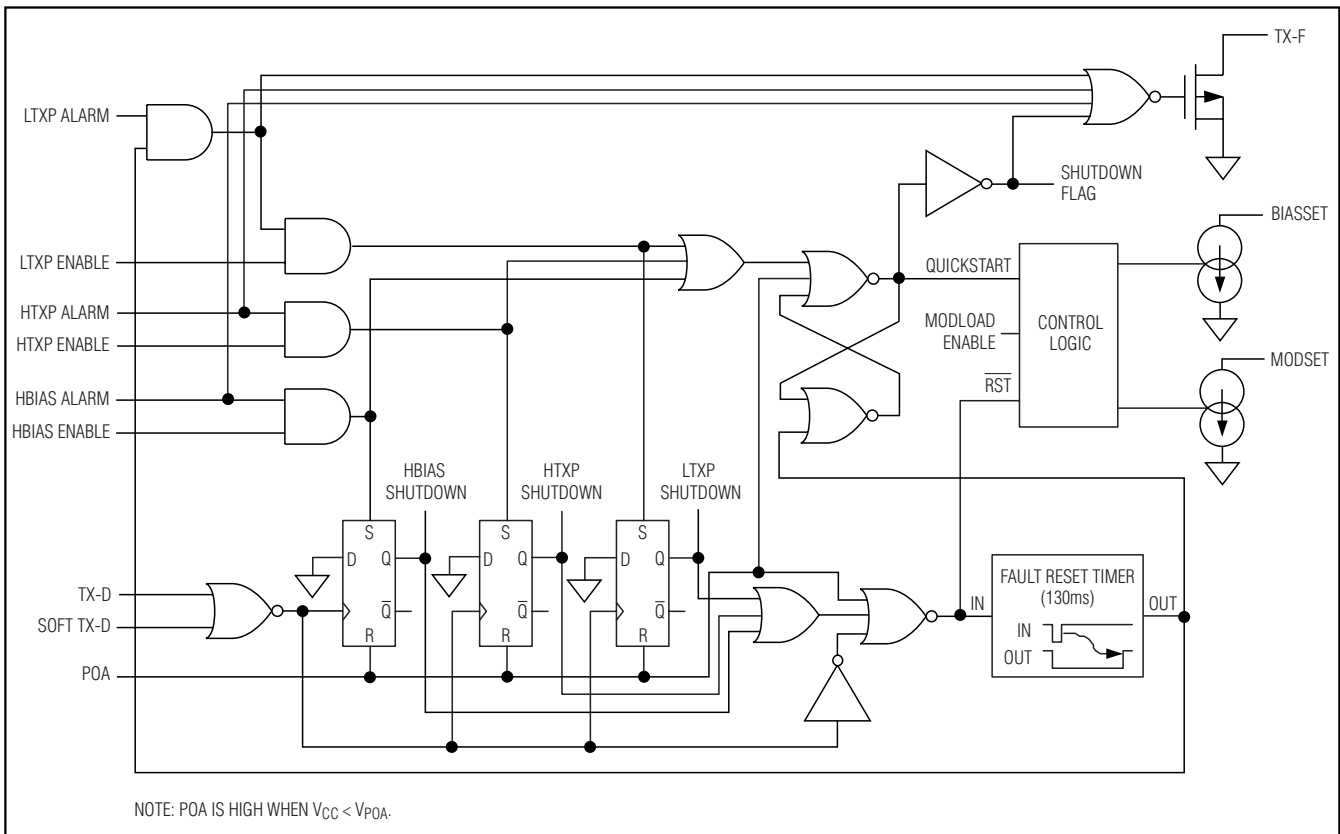

Figure 13. Quick Trip Logic Diagram
The DS1861 has a VCC monitor plus three programmable quick-trip (QT) fault monitors (Figure 13) that can trigger the TX-F output. The QTs monitor for high transmit power (HTXP), low transmit power (LTXP), and for high bias current (HBIAS). All the QTs feature programmable trip levels, an alarm disable, and a shutdown enable to determine if the enabled QT alarm shuts off the IBIASSET and IMODSET outputs.
The high and low transmit power quick-trip thresholds are each programmed by 3 bits that select one of seven different levels as a function of the expected I_{BMD} current. Each QT monitor can be disabled by programming all three bits to zero. Disabling a QT by programming its control bits to zero prevents the QT alarm flags from ever being set, which consequently prevents that monitor from asserting the TX-F output, latching the device into a shutdown condition, or setting the alarm bits in the Status register. The HTPX and LTPX enable bits can be used to prevent the transmit power level QTs from causing shutdown while allowing the TX-F output to be set to flag the system of a transmit power fault condition. Figure 13 shows the shutdown logic. Tables 1 and 2 show the QT thresholds as a function of I_{BMD} current-set point.